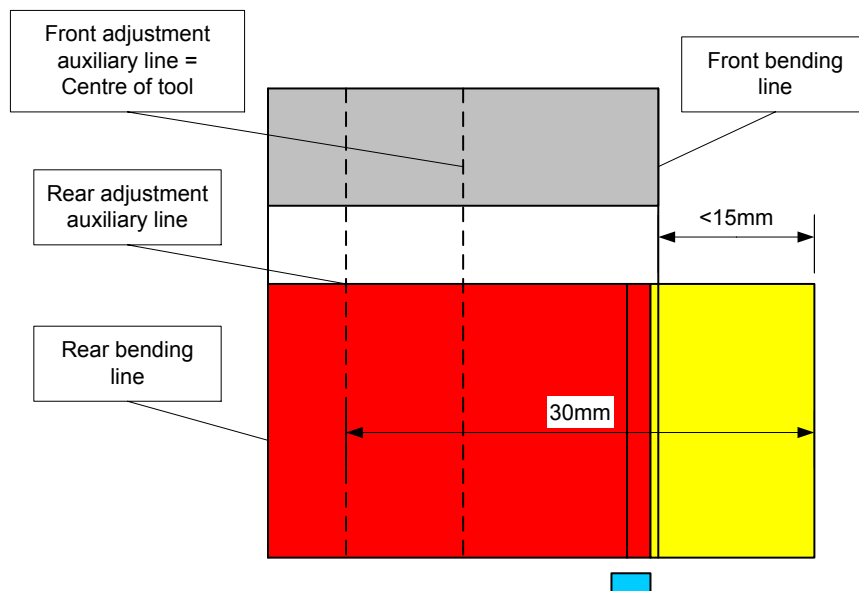

Fig. 8: Protected field⁶ for stamping tools of tool class 2
- ▶ Stamping tool (from 32 to 42mm), see Fig. 8.